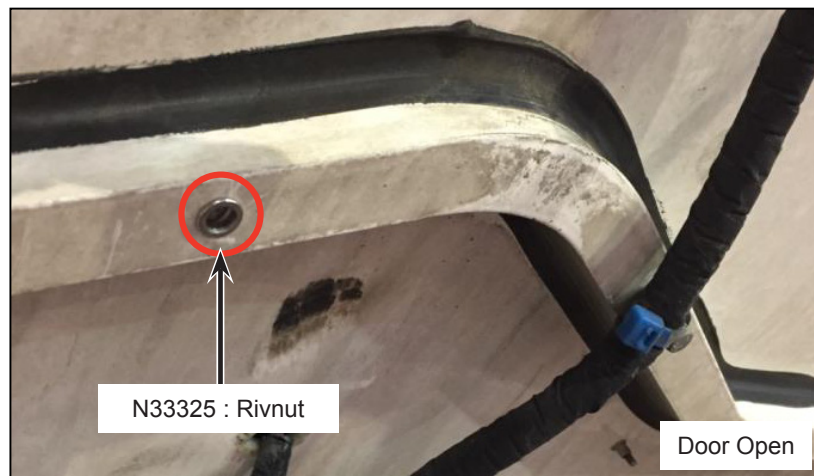

Figure 6 - Installation of Rivnut (N33325) to Door Structure
- 1.15. Install M6 rivnut N33325 using a rivet gun (see Figure 6).